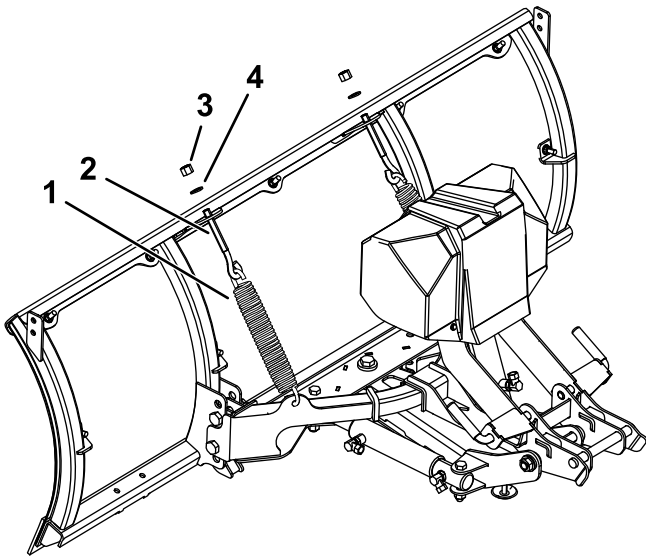

Figure 6
5. Hook the 2 trip springs through the holes on the push-frame assembly (Figure 6).
6. Hook the other ends of the trip springs to 2 eyebolts (Figure 6).
7. Insert the threaded end of the eyebolts through the holes on the plow blade and secure them using 2 washers (1/2 inch) and 2 self-locking nuts (Figure 6).